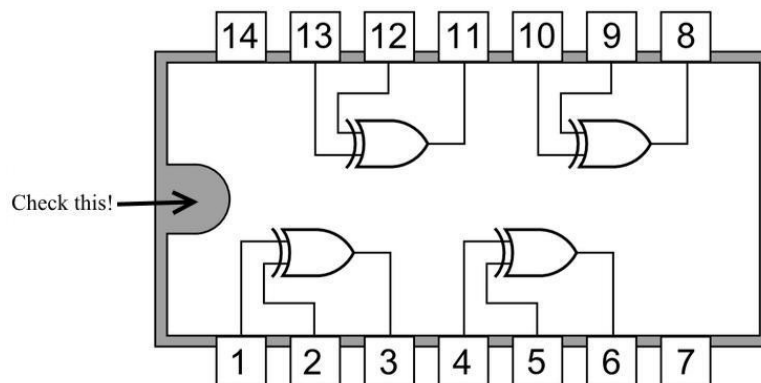

Figure 1: 7486 Quad 2-input XOR gate integrated circuit package.
Physical gates are constructed using transistors and require physical signals with specific voltage levels for inputs and outputs. To function correctly, the transistor circuits within a gate must be connected to a voltage supply and ground. For instance, in the case of 74-series logic circuits used in this lab, the supply voltage V_{cc} should be 5 volts. These 74-series integrated circuit (IC) packages contain multiple gates in a single package. To obtain pin connection diagrams for a specific gate and its function (e.g., "7486 XOR gate"), search the internet using the gate number and its purpose. The pin diagram shown in Fig. 1 is an example of where to connect a gate's pins. You will need the pin diagrams for each gate you plan on utilizing in order to perform various tasks. Find the pinout of other ICs you plan to use before coming to the lab for your own reference. Additionally, you may require the following gates today: 7400 quad 2-input NAND, 7402 quad 2-input NOR, 7408 quad 2-input AND, 7432 quad 2-input OR, and an INVERTER.